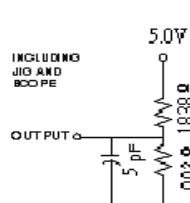

FIGURE 1B
5.) Transition is measured  $\pm 500\text{mV}$  from steady state with  $CL = 5\text{pF}$  as shown in Figure 1B. The parameter is guaranteed but not 100% tested.
10. Transition is measured  $\pm 500\text{mV}$  from steady state with  $CL = 5\text{pF}$  as shown in Figure 1B. The parameter is guaranteed but not 100% tested.